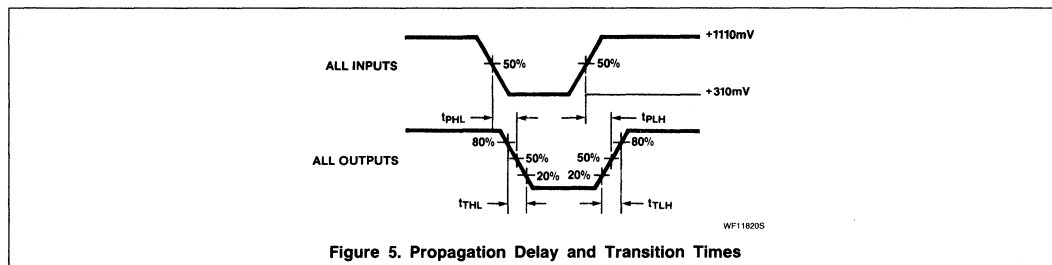

Figure 5. Propagation Delay and Transition Times
2. All transition times are from 20% to 80% and 80% to 20% (refer to Figs. 5, 6, 7).